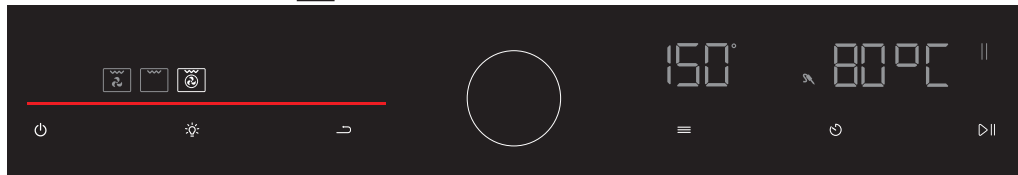

Figure 124
3. Turbo and fan () operate. (see figure 124)